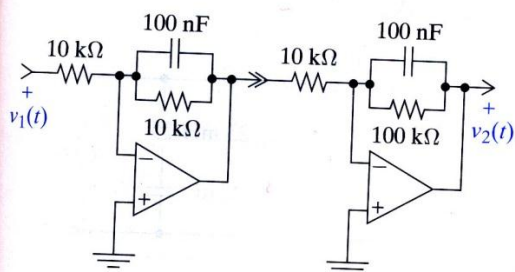

FIGURE P11-9
- 11-9 Find the voltage transfer function $T_V(s) = V_2(s)/V_1(s)$ of the cascade connection in Figure P11-9. Locate the poles and zeros of the transfer function.